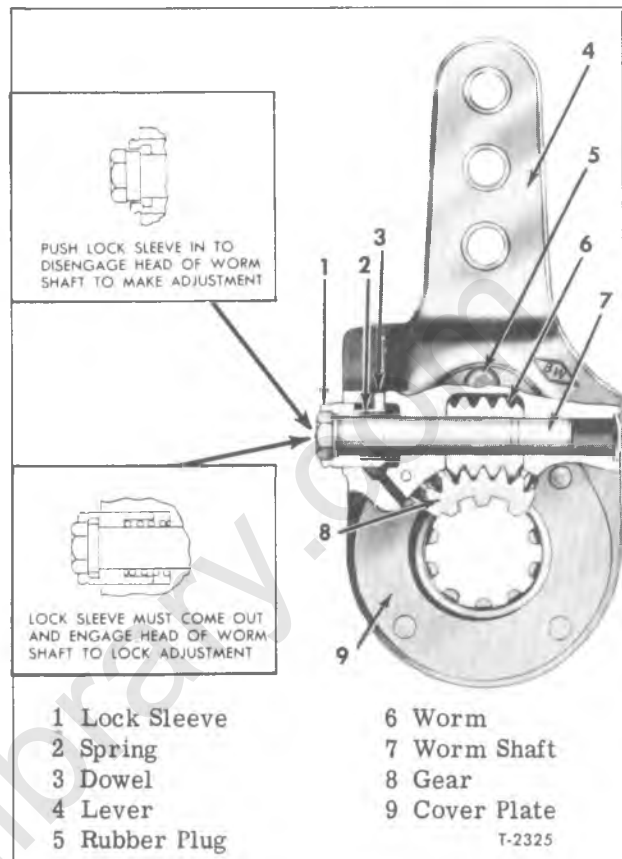

Figure 7—Slack Adjuster
Slack adjusters function as adjustable levers and provide a quick and easy method of adjusting the brakes to compensate for normal lining wear. Positive-locking type slack adjusters are used on all vehicles. Internal construction of all slack adjusters is as shown in figure 7; however, lever arm (body) may be offset to suit installation requirements. Refer to "Air Brake Specifications" at end of this section to determine slack adjuster type used.
NOTE: Lock sleeve must be pushed in before worm shaft can be turned (fig. 7). Make sure sleeve is pushed in far enough to clear hex end of worm shaft before turning shaft.
2. Be sure wheel turns freely with brakes fully released. After completing adjustment, make sure lock sleeve comes out and engages hex end of worm shaft (fig. 7). Pry sleeve out with screwdriver if necessary. Coat lock sleeve and end of worm shaft with wheel bearing grease to keep out dirt and moisture to assure free movement of sleeve at next adjustment.